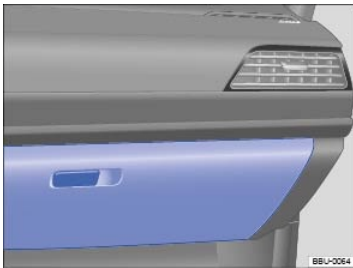

Fig. 130 On the passenger side: Glove compartment.
- To *open*, pull the handle ⇒ Fig. 130.